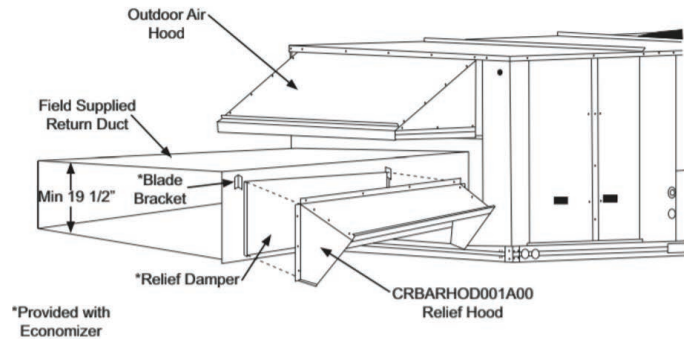

Fig. 32 — Installing CRBARHOD001A00 Over Relief Damper
4. Using the blade brackets, install the relief damper onto the side of the return duct (see Fig. 32). The two brackets and relief damper are provided with the economizer.
Caulk the backside of the mating flanges to ensure a watertight seal. Install the CRBARHOD001A00 over the relief damper and screw to the return duct, as illustrated in Fig. 32.